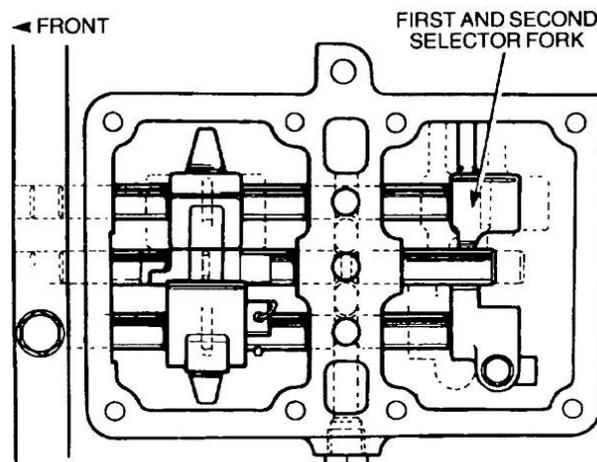

Figure 198 Installation of the First and Second Gear Selector Fork
- bbb. Locate the first and second gear selector fork in the sliding clutch groove with the boss on the fork facing towards the rear of the transmission (Figure 198). Position the boss on the right-hand side of the transmission.